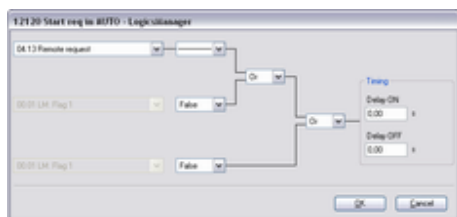

Fig. 222: LogicsManager function "Start req in AUTO"
3. ➤ Configure the LogicsManager function "Start req in AUTO" as shown in (Fig. 222).